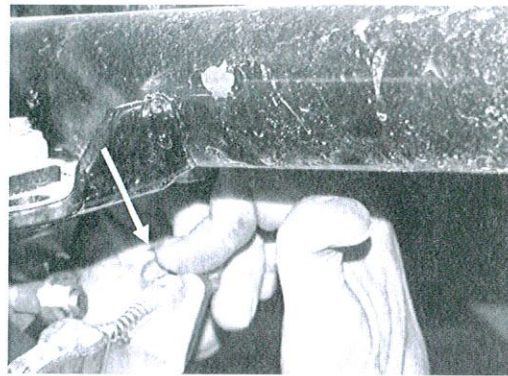

Fig. 10 - Installing retaining clip
12. Anchor brake cable conduit fitting to cable bracket provided on brake caliper. Use retaining ring from previous drum installation to keep it in place. (See Fig. 10)